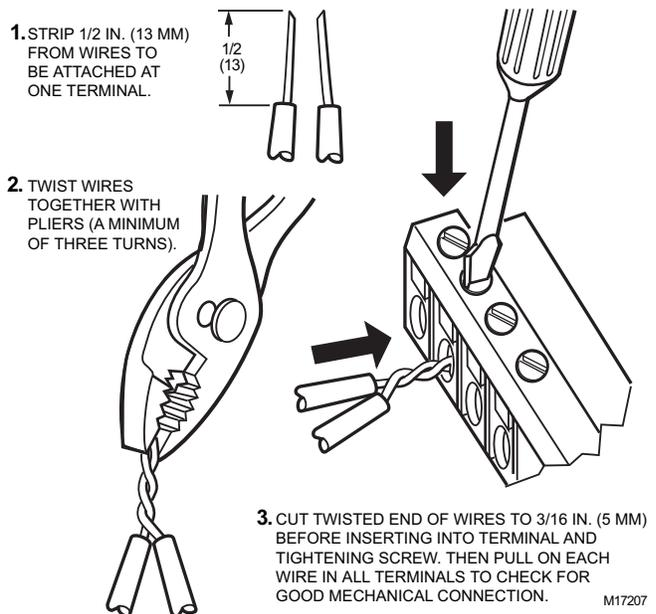

Fig. 14. Attaching two or more wires at terminal blocks.
NOTE: When attaching two or more wires to the same terminal, other than 14 AWG (2.0 sq mm), be sure to twist them together. Deviation from this rule can result in improper electrical contact (see Fig. 14).
3. If two or more wires are being inserted into one terminal location, twist the wires together a minimum of three turns before inserting them (see Fig. 14).